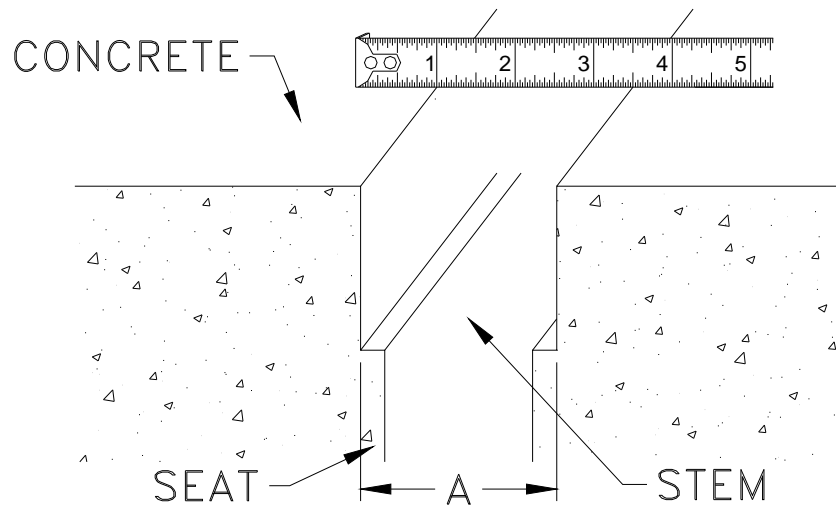

Figure 1
- A. The size of the joint opening measured at a 70°F temperature should be verified and recorded by the Engineer of record (see Figure 1). Please note that the joint size indicated in Figure 1 is representative, and the actual required joint size may vary from that indicated in Figure 1.